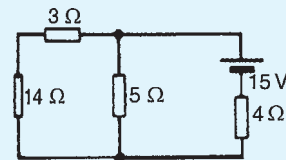

Figure 13.49
1. Use Thévenin's theorem to find the current flowing in the 14 Ω resistor of the network shown in Fig. 13.49. Find also the power dissipated in the 14 Ω resistor.